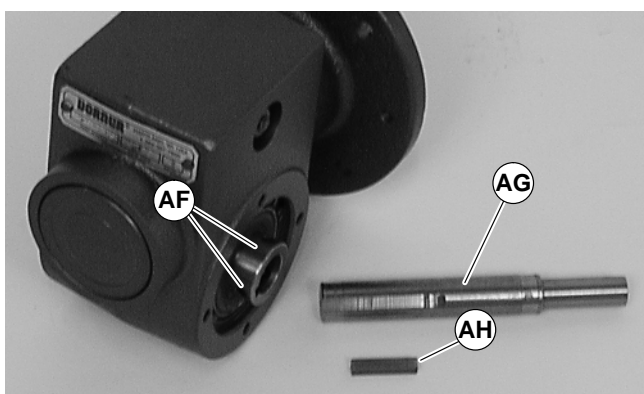

Figure 17
6. Remove two (2) screws (AC) and detach output shaft cover (AD).
7. Loosen six (6) set screws (AF of Figure 17). Remove drive shaft (AG) and key (AH).
8. Remove gear reducer output shaft key (AE).
10. Replace the original shaft (AG of Figure 17) and key (AH) into new gear reducer. Tighten set screws (AF) to 3 Nm.